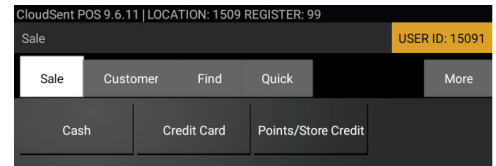

Figure 60
2. Select Credit Card (Figure 60).